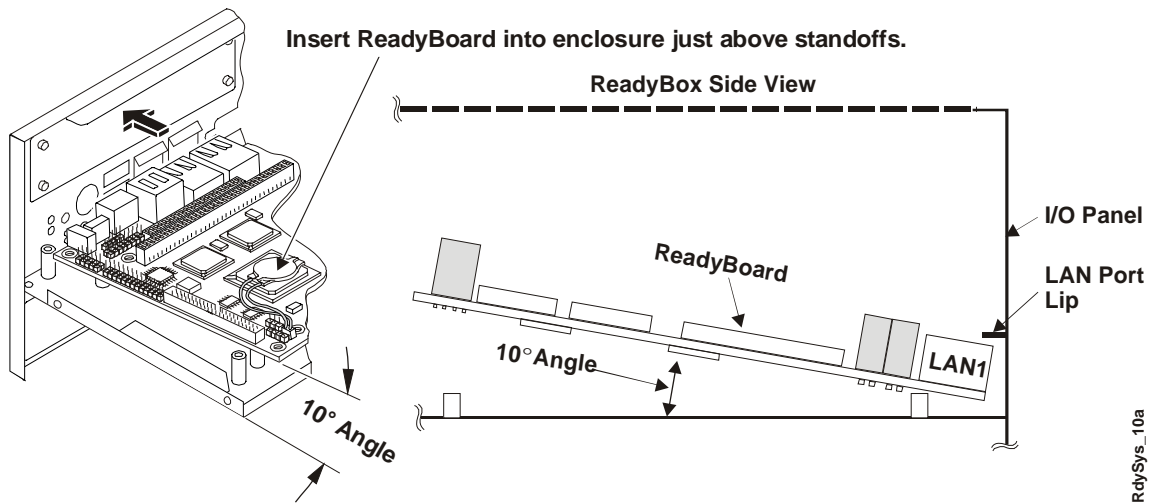

Figure 4-7. ReadyBoard Positioned Under LAN Ports
5. Position the ReadyBoard near the eight standoffs on the enclosure shelf at about a 10° angle to the mounting shelf. See Figures 4-7 and 4-8.
6. Insert the ReadyBoard and its Ethernet connectors just under the lip of the two LAN ports on the enclosure wall, behind the I/O panel. See Figure 4-7.